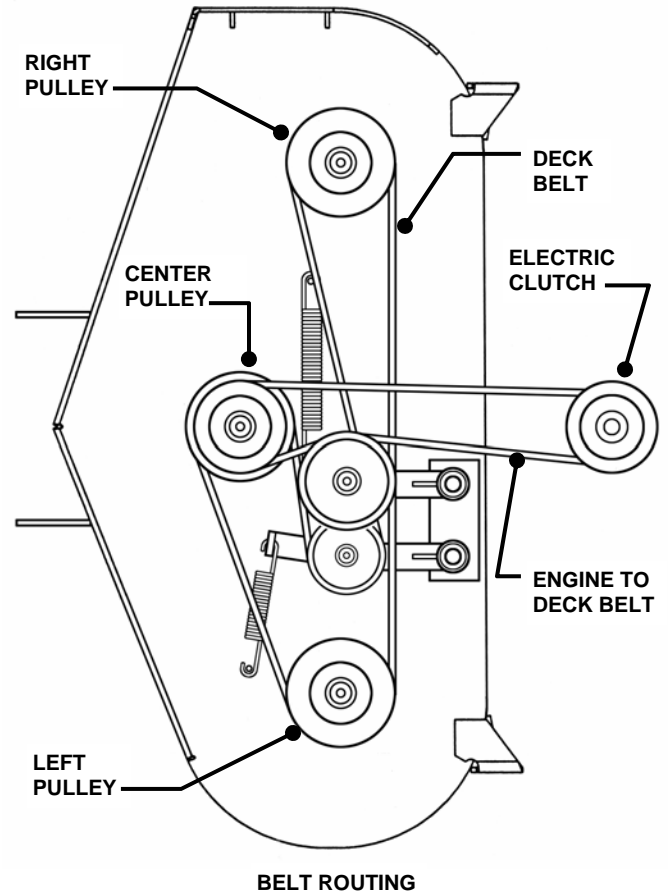

FIGURE 5.12
4. Remove old deck belt. Note the belt routing. See Figure 5.12.
2. Route deck belt around blade pulleys and idler pulley in the same position as old belt was removed. See Figure 5.12.